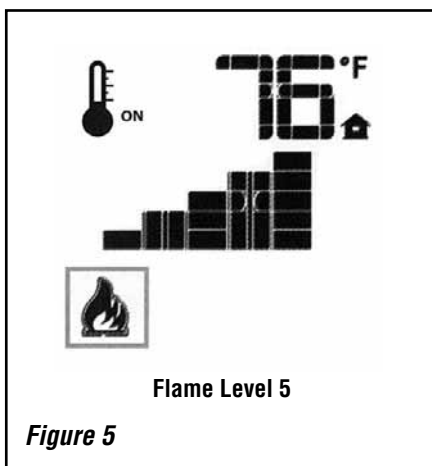

Figure 5
The system has six (6) flame levels. See Figure 5 for an example. With the system on, and the flame level at the maximum in the appliance, pressing the Down Arrow Key once will reduce the flame height by one step until the flame is turned off.